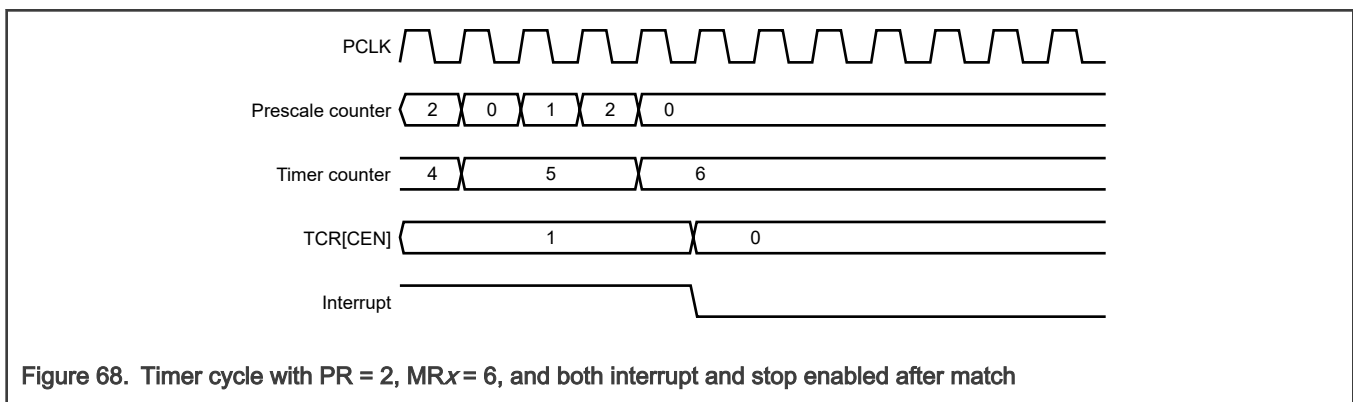

Figure 68. Timer cycle with PR = 2, MRx = 6, and both interrupt and stop enabled after match
Figure 68 shows a timer configured to stop and generate an interrupt after a match. The value of **Prescale (PR)** is 2 and the value of **Match (MR0 - MR3)** is 6. In the next clock after the timer reaches the match value, **TCR[CEN]** becomes 0 and the interrupt indicating that a match has occurred is generated.